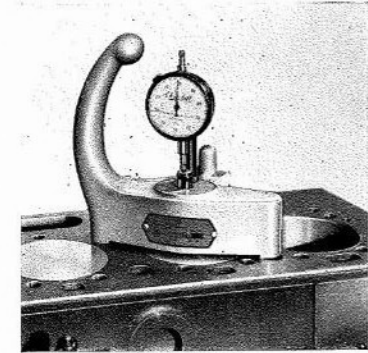

Fig. J.5.
2. Turn the crankshaft until the piston is at top dead centre and measure the distance between the top face of the cylinder block and the piston crown using the Piston Height Gauge Tool No. PD.41A. (See Fig. J.5).